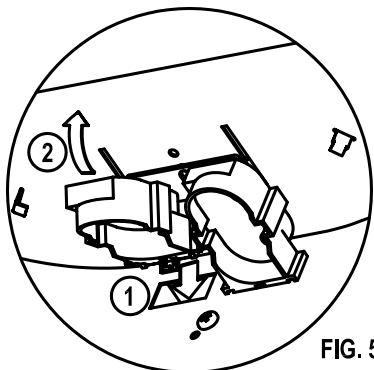

FIG. 5
5. INSTALL SOCKETS AS SHOWN (FIG. 5), AND INSTALL LAMPS (BY OTHERS).